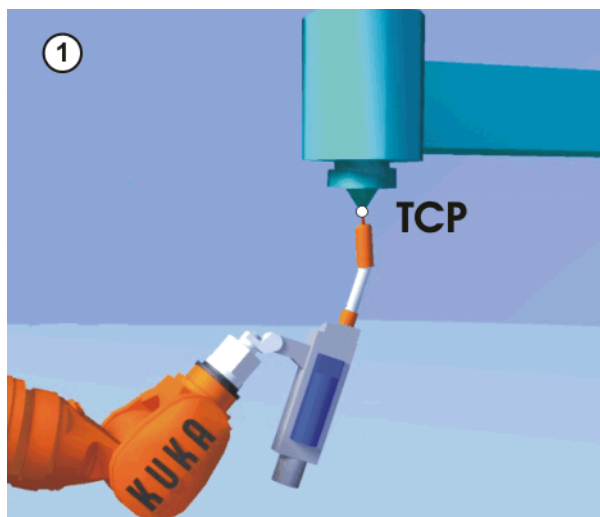

**Fig. 3-37: Calibration of the fixed tool**
As illustrated in (1) (>>> Fig. 3-37 ), the external TCP is managed relative to \$WORLD (or \$ROBROOT), i.e. in the same way as a base coordinate system.